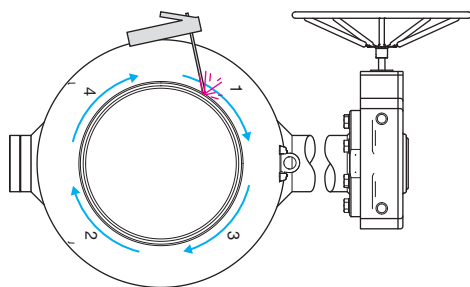

Figure 5. Welding the seams.
- Then the seams between the bridges are welded as shown in Figures 5. and 6. Welding order: 1-2-3-4.